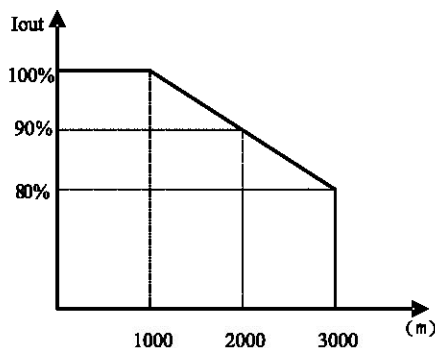

Fig 1-7 Derating drive's output current with altitude
Height above sea level	1000m or below (If the height is higher than 1000m, derating must be considered, please refer to Fig1-7).
- Derating must be considered when the drive is installed at high altitude, greater than 1000m. This is because the cooling effect of drive is deteriorated due to the thin air, as shown in Fig. 1-7 that indicates the relationship between the elevation and rated current of the drive.